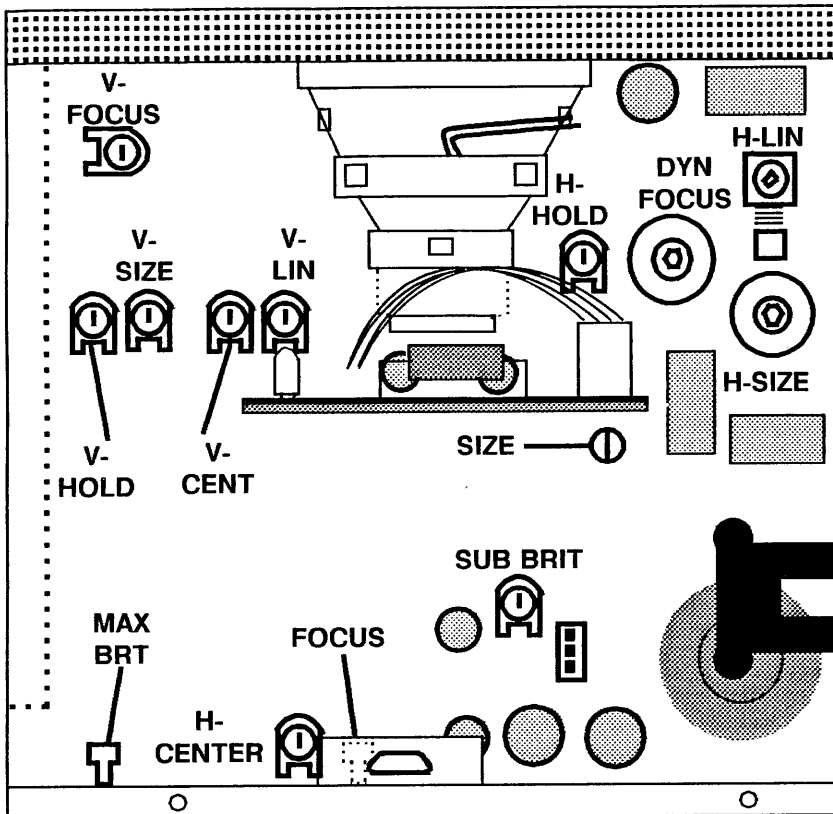

Figure 24. 19 Inch Display Adjustment Locations
- f. With the operator brightness control set to minimum brightness, adjust **SUB BRIT** to the specifications in step b (Figure 24).
- d. Adjust the **FOCUS** pot (R223), the **VERT FOCUS** pot and the **DYN FOCUS** pot for optimum viewing (Figure 24). The R223 adjustment is made through an access hole in the rear plate.
- Adjust the **H SIZE** coil to obtain correct display width (Figure 24). If the adjustment cannot be obtained, adjust the **SIZE** pot (R430).
- Adjust **VERT SIZE** to obtain correct display height (Figure 24). The **SIZE** pot (R430) may have to be adjusted to obtain the correct height. Go back and recheck the horizontal size (step 13a).